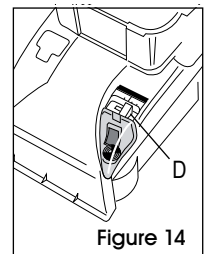

Figure 14
2. Slide selector button (D) to the desired setting before cleaning. (See Figure 14)